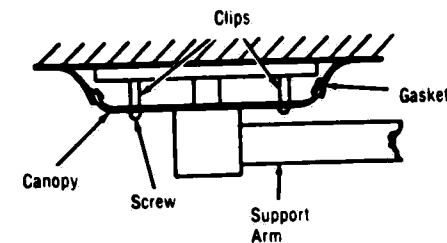

Figure 4-24. CENTRAL MOUNT CANOPY AND GASKET.
4.16.1 Removal of Central Mount Fixture (See Figures 4-24 and 4-25)
4.16.2 Reinstalling Central Mount Fixture (See Figures 4-24 and 4-25)